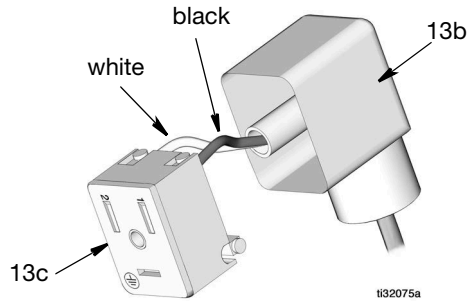

FIG. 9
12. Insert the other end of the connector cable into the mini DIN solenoid connector. Connect the line (black) wire to the terminal labeled 1, the neutral (white) wire to the terminal labeled 2 (FIG. 9).
13. Replace the retainer plate (13c) in the DIN connector (13b) (FIG. 9).